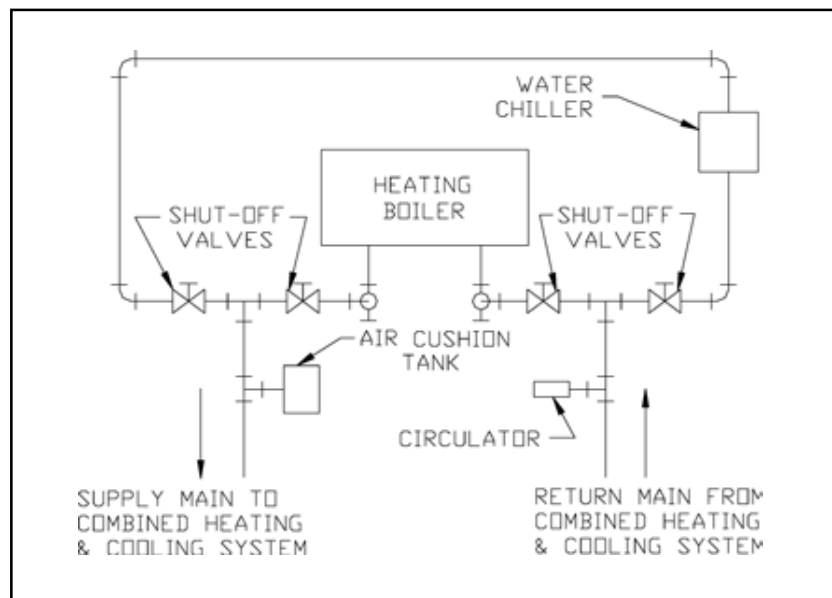

Figure 27: Recommended Piping for Combination Heating & Cooling (Refrigeration) System
- F. If boiler is used in connection with refrigeration systems**, boiler must be installed with chilled medium piped in parallel with the heating boiler using appropriate valves to prevent chilled medium from entering boiler, see Figure 27. Also consult I=B=R Installation and Piping Guides.